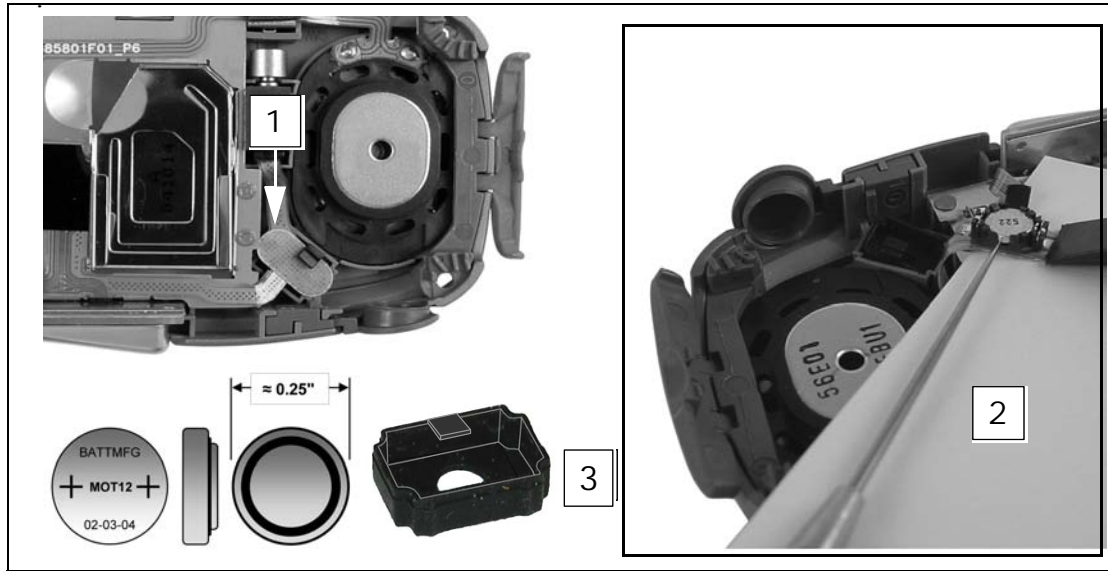

Figure 7-13.
1. Locate coin cell at flex strip near speaker. Push back boot tab (see Figure 7-13).
3. Remove the coin cell boot if needed (see Figure 7-13).